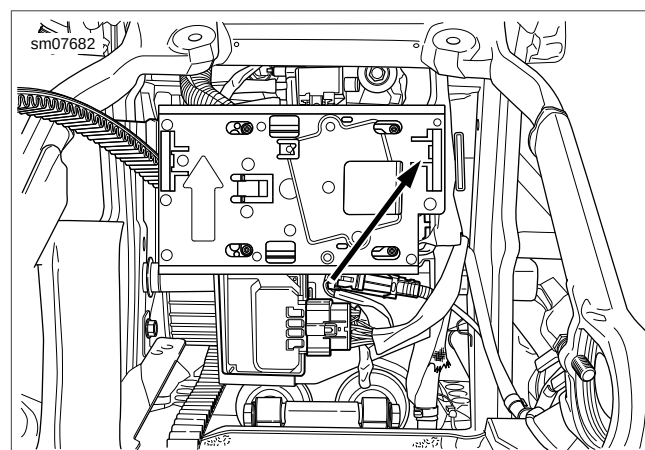

Figure 7-7. ECM
4. See Figure 7-7. Press in on tab and pull ECM panel away from latch.
3. See Figure 7-7. Push ECM panel forward and engage latch.